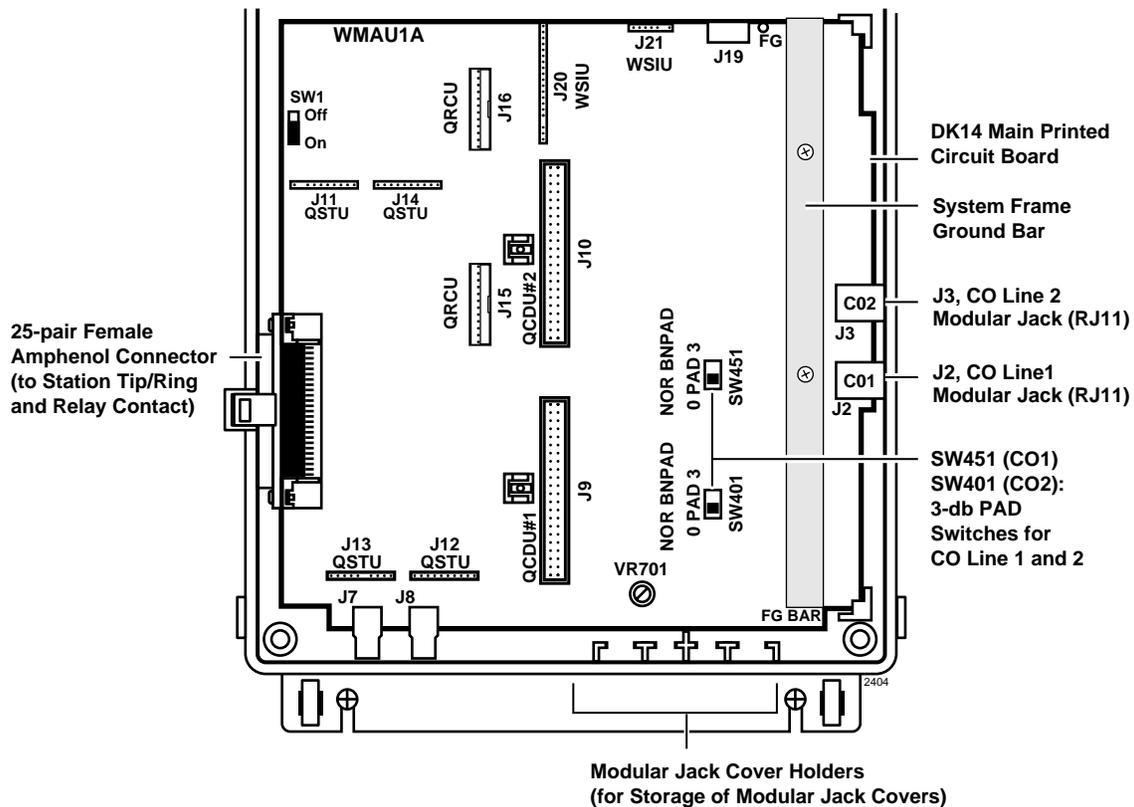

Figure 1-4 DK14 Interior View
2. Move the SW1 RAM Storage Battery jumper plug strap on the motherboard to the ON position (Figure 1-4).
The KSU comes standard with two CO lines and four digital telephone circuits already installed on the motherboard (WMAU). See Figure 1-4 for an illustration of the WMAU.
Apply firm, even pressure to ensure proper mating of the connectors. Make sure the QCDU2's connector edge next to the connector J1 snaps firmly into the standoffs on the KSU motherboard. (See Figure 1-4).